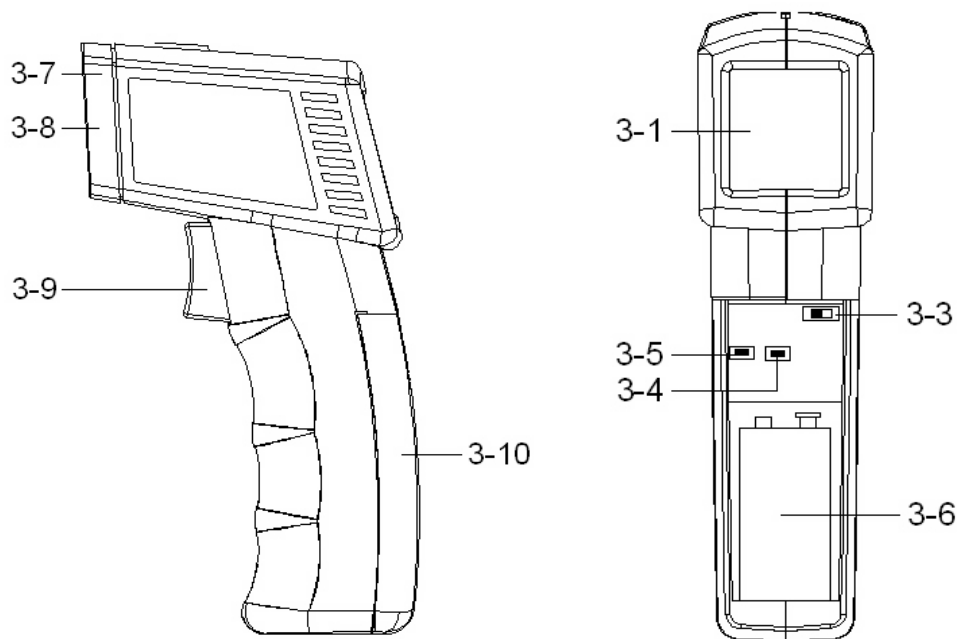

Fig. 1
- 1) One hand hold the " Handle " ( 3-10, Fig. 1 ), use finger to press the " Operation Switch " ( 3-9, Fig. 1 ) continuously.
- 2) Point the " IR Sensing Head " ( 3-8, Fig. 1 ) to the measuring object until meter show the stable temperature values ( approx. 1 to 2 seconds ), release the " Operation Switch ". The Display will hold the measuring value for 5 seconds, then power off automatically.
- a. When press the " Operation Switch " ( 3-9, Fig. 1 ) to make the temperature measurement, at the same time the meter's head will generate the red " Laser Target Light " ( 3-7, Fig. 1 ) to guide the target.
- a. Use finger to press the " Operation Switch " ( 3-9, Fig. 1 ) continuously.
- b. Use " Down ▼ Button " ( 3-4, Fig. 1 ) and the Up ▲ Button " ( 3-5, Fig. 1 ) to adjust the desired emissivity value.
- 2) Slide the Battery Cover ( 3-2, Fig. 1 ) away from the instrument and remove the battery.